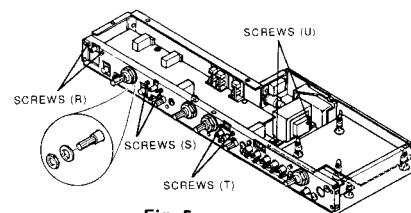

Fig. 5
Remove 2 screws (R). (Fig. 5)
Remove 2 screws (S). (Fig. 5)
Remove 2 screws (T). (Fig. 5)
Remove 2 screws (U). (Fig. 5)